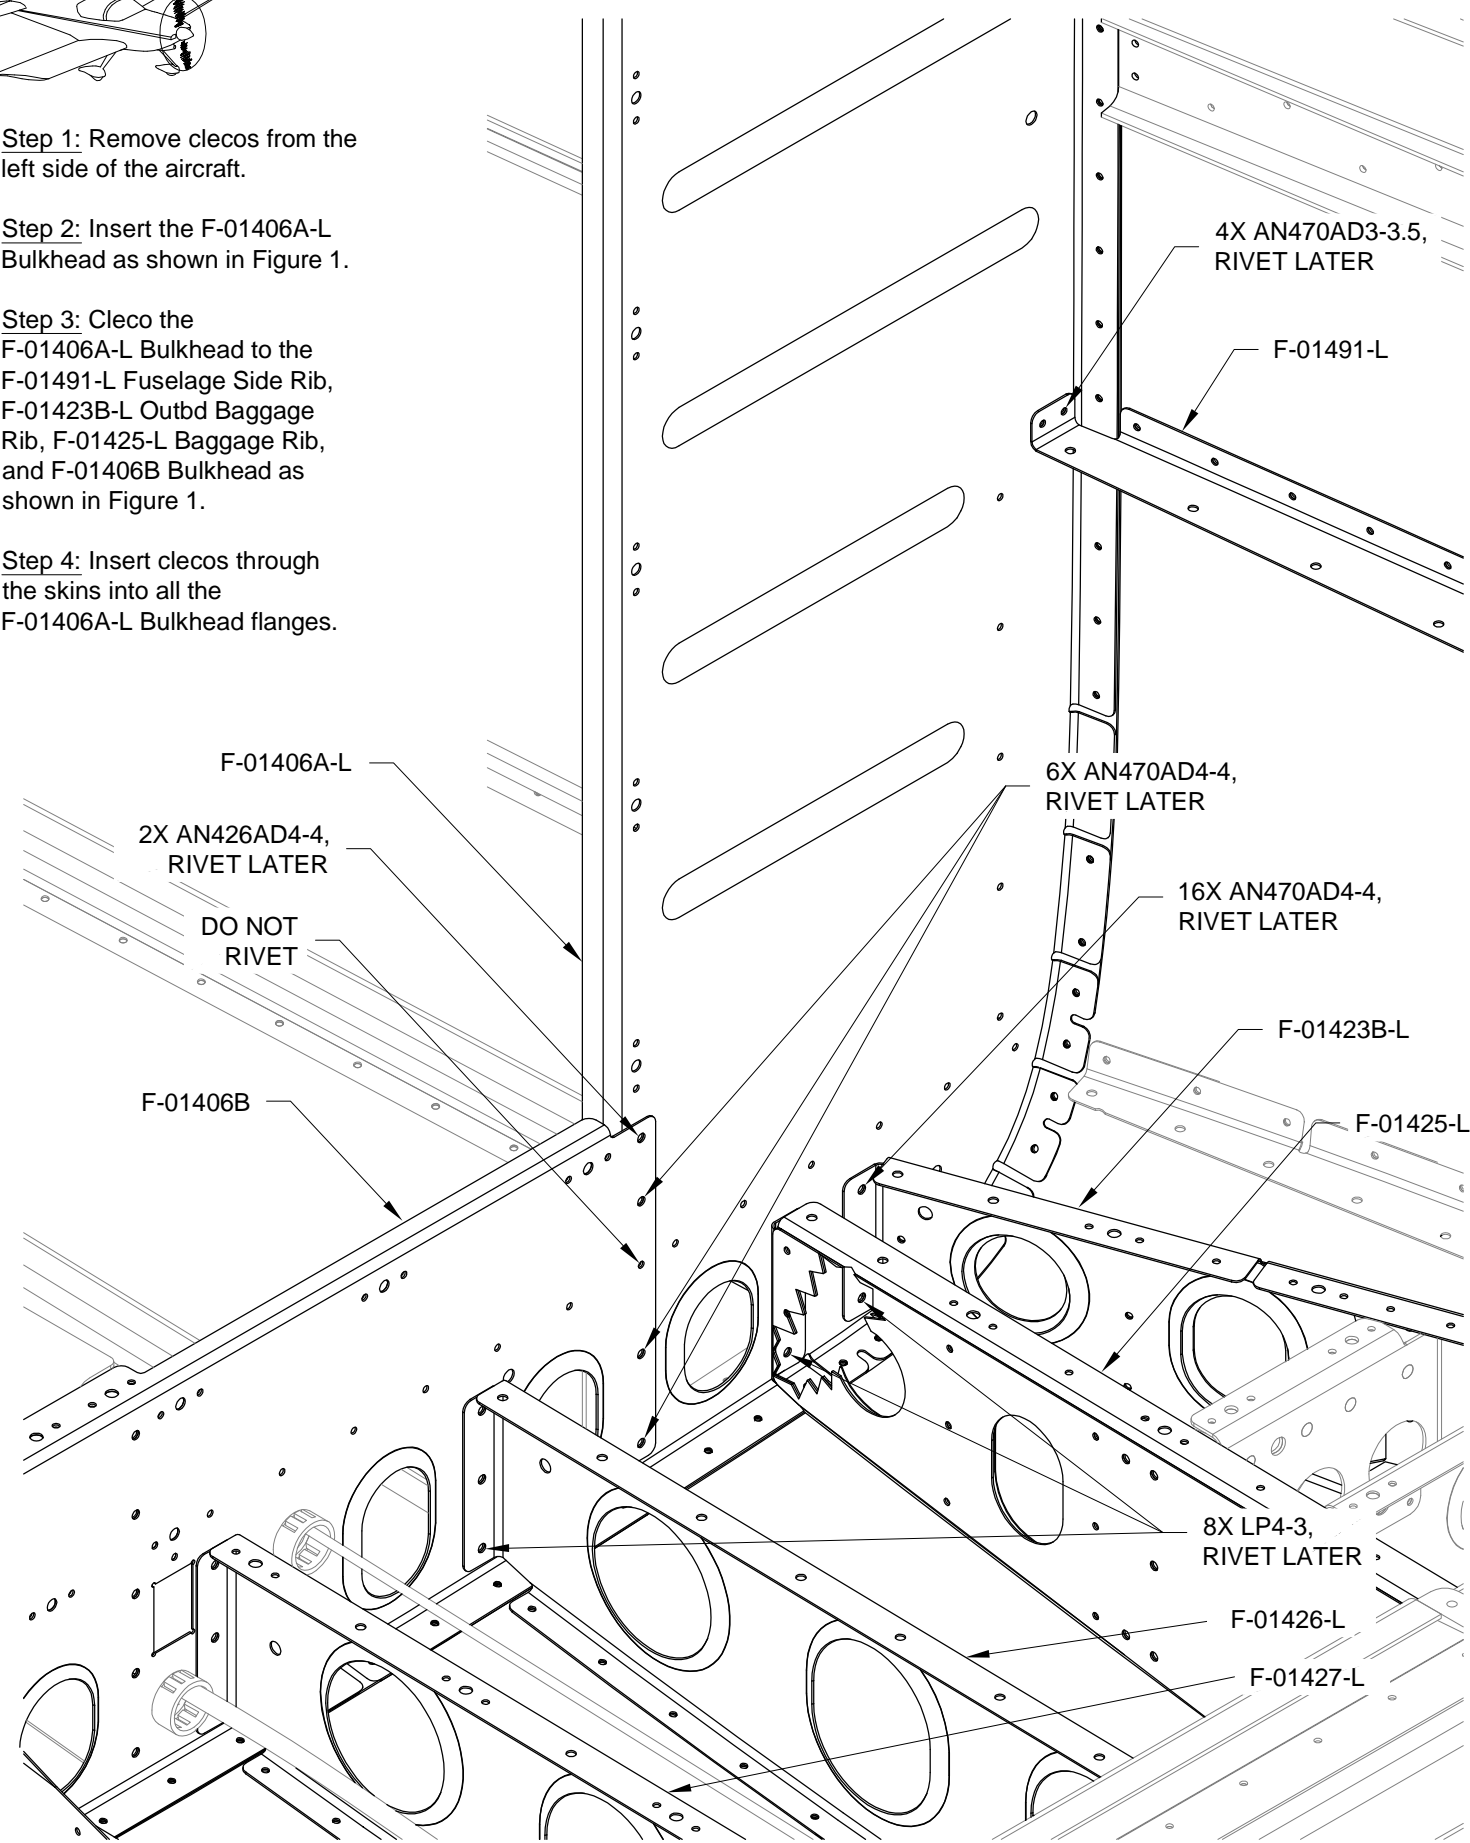

FIGURE 1: BULKHEAD INSTALLATION
Step 3: Cleco the F-01406A-L Bulkhead to the F-01491-L Fuselage Side Rib, F-01423B-L Outbd Baggage Rib, F-01425-L Baggage Rib, and F-01406B Bulkhead as shown in Figure 1.